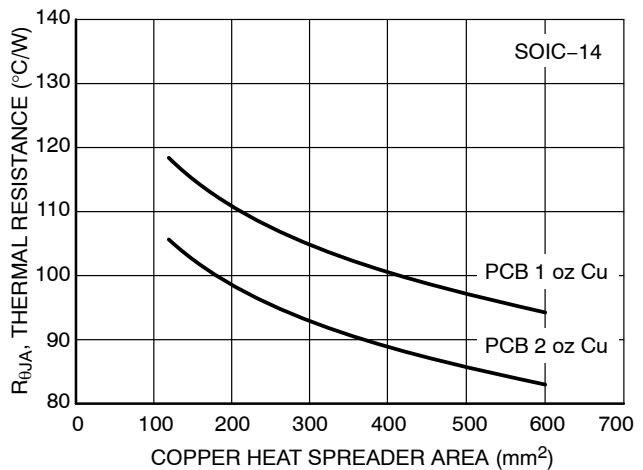

Figure 28. Thermal Resistance vs PCB Copper Area
Since TJ is not recommended to exceed 150°C, then the NCV8768 soldered on 645 mm2, 1 oz copper area, FR4 can dissipate up to 1.3 W when the ambient temperature (TA) is 25°C. See Figure 28 for RθJA versus PCB area. The power dissipated by the NCV8768 can be calculated from the following equations: